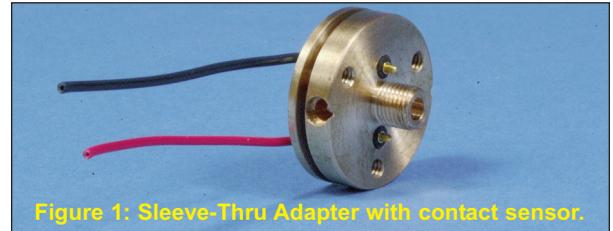

Figure 1: Sleeve-Thru Adapter with contact sensor.
1. A customer is using FC or SMA mating sleeve to butt-couple 2 high power multimode fibers terminated with appropriate connectors. A sensor that is installed at the appropriate point in the FC or SMA mating sleeve will be able to detect the presence or absence of a connector metal ferrule. Thus, in case an operator unwittingly removes one of the high power fiber patchcords by unscrewing the FC or SMA connector, the sensor signal can be used by the customer to trigger a safety interlock or shut down of the laser. In addition, if a thermocouple or a thermistor has also been installed in the mating sleeve, and there has been some damage to one of the connectorized fiber endfaces that is causing light to reflect into the mating sleeve leading to local temperature rise, the signals from the thermistor can be used to alert the operator and/or initiate a safety interlock at the laser or laser shut down. Figure 1 shows an SMA sleeve-thru adapter with contact style sensor for fiber connector proving. Figures 2 and 3 show SMA and FC mating sleeves in which both the inductive proximity and temperature sensors have been installed.
- FC and SMA Sleeve-through adapters (mating sleeves) for multimode fiber to fiber coupling situations- See Figures 1 and 2